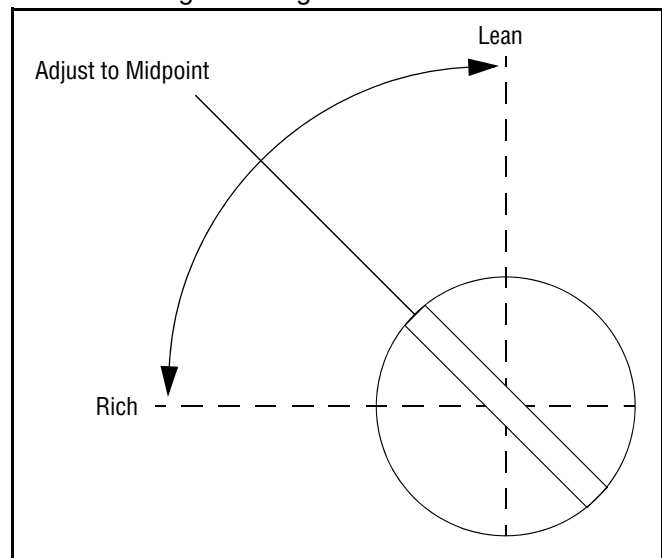

Figure 18
2. **Low Idle Fuel Screw Setting:** Place the throttle into the "idle" or "slow" position. Turn the low idle fuel mixture screw out (counterclockwise) from the preliminary setting until engine speed decreases (rich). Note the position of the screw. Now turn the mixture screw in (clockwise). The engine speed may increase, then it will decrease as the screw is turned in (lean). Note the position of the screw. Set the adjusting screw midway between the rich and lean settings. See Figure 18.